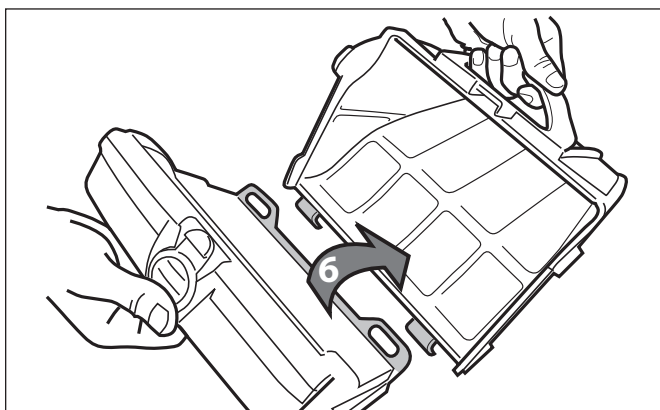

Figure 23. Remove Filter Canister
8. Separate the filter canister from the filter support (6). (See Figure 23.)